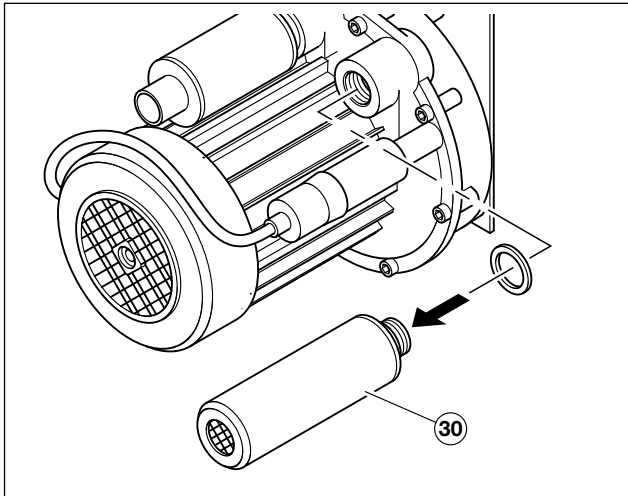

Fig. 6 Clean air filter grill
- ① Unscrew sound damper ③.
- ② Blow out the sound damper from the air outlet by means of compressed air (see arrow, Fig. 6).
- ③ Screw on sound damper again.